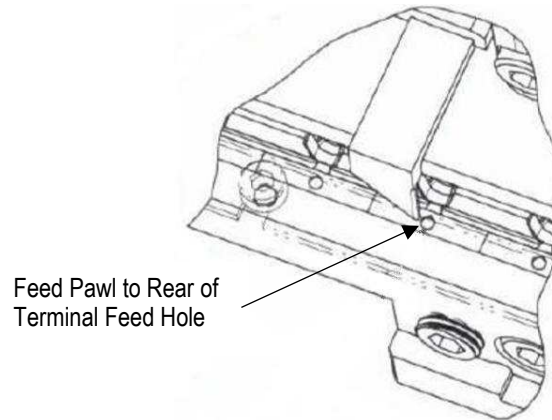

Figure 16
- (1) Remove air pressure from the air feed module.
- (2) Release terminal drag.
- (3) Install the terminal strip in the applicator until the feed pawl drops into the first feed hole.
- (4) Pull the terminal strip back until the feed finger hole stops on the feed pawl.
- (5) Engage the terminal drag.
- (6) Manually extend the feed arm.
- (7) Manually retract the slide until the feed pawl is at the rear edge of feed hole for the next terminal (feed pitch) (reference Figure 16).